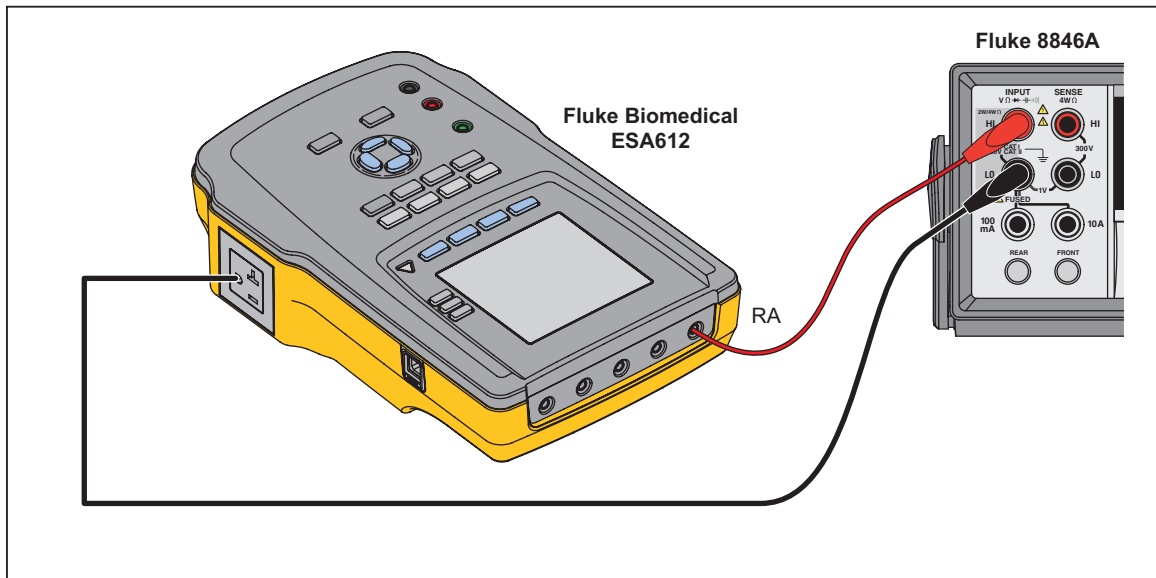

Figure 3-26. MAP Voltage and Current Limits Connections
1. Connect the DMM Input (+) to the RA applied part and the DMM Input (-) to the EO ground as shown in Figure 3-26. Set the DMM to the 1000 V ac range.